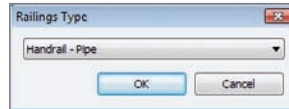

FIGURE 10.11 Select Handrail - Pipe in the Railings Type dialog.
2. In the Railings Type dialog, select Handrail - Pipe, as shown in Figure 10.11.